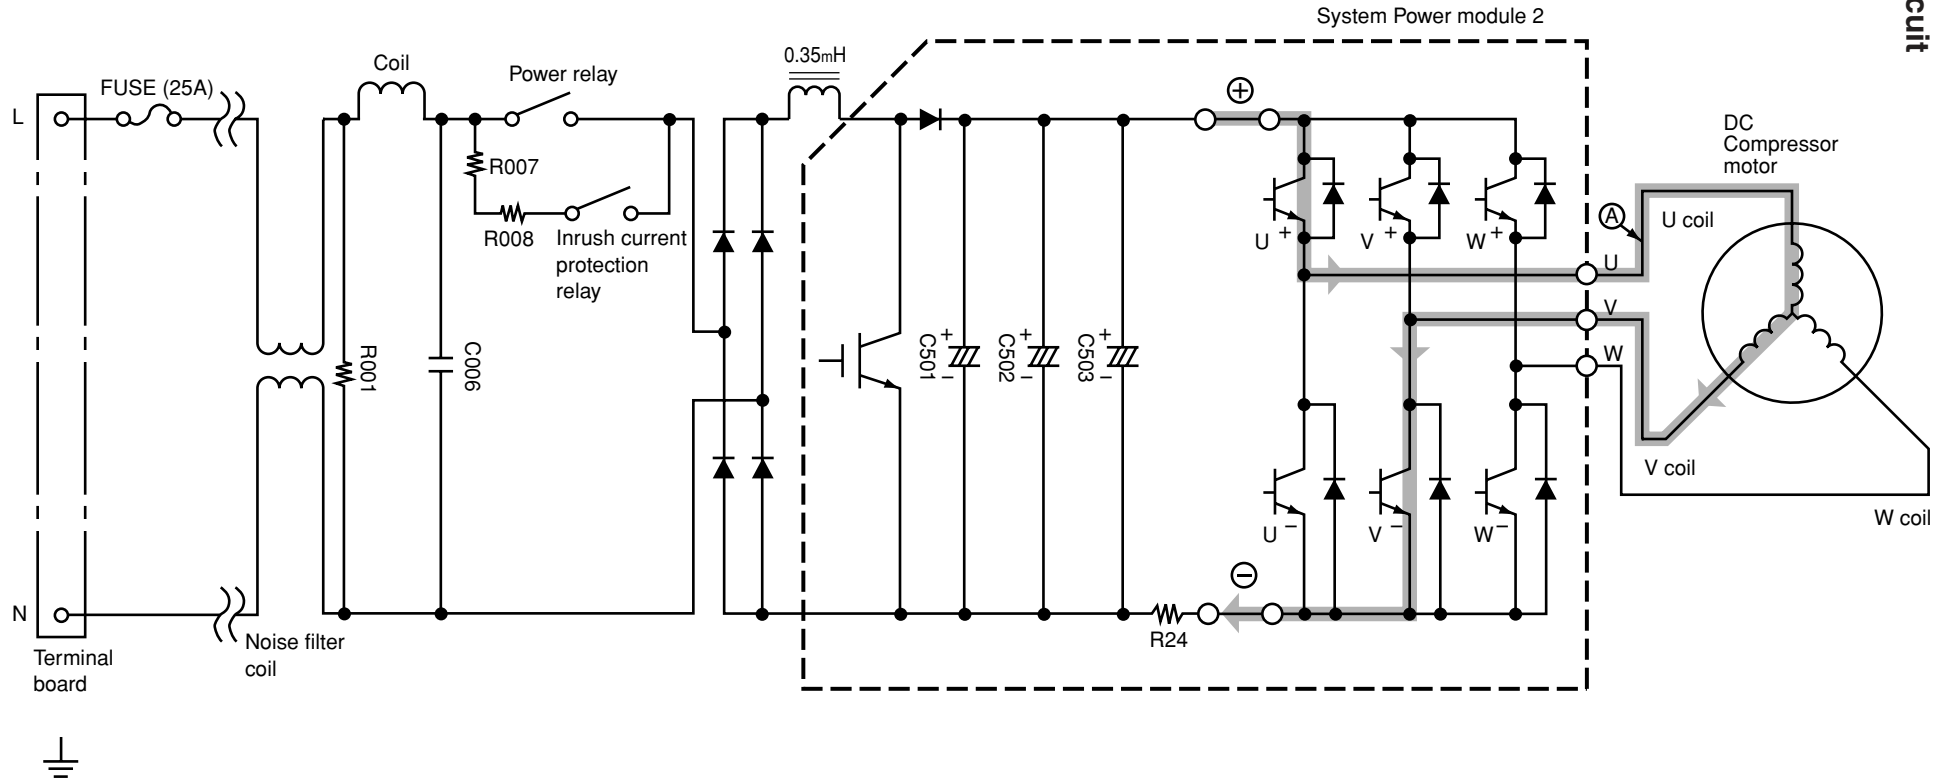
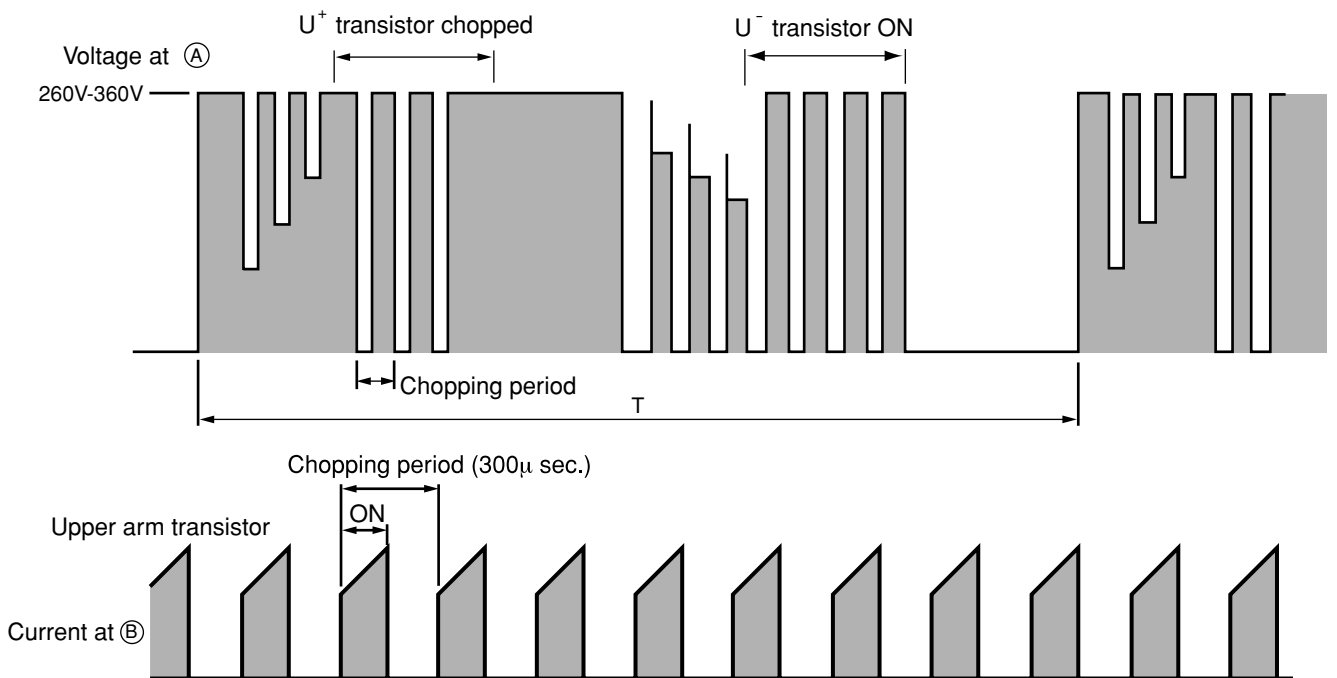

Fig. 3-1 Power module circuit (U^+ is ON, V^- is ON)
Fig. 3-3 Voltage waveform at each point
- Fig. 3-1 shows the system power module and its peripheral circuit. The three transistors on the positive \oplus side are called the upper arm, and the three transistors on the negative \ominus side, the lower arm.
- Fig. 3-3 shows voltage waveform at each point shown in Figs. 3-1 and 3-4. First half of upper arm is chopper, second half is ON, and first half of lower arm is chopper, second half is ON.
- When power is supplied U⁺ → U⁻, because of that U⁺ is chopped, current flows as shown below; (B)
- (1) When U⁺ transistor is ON: U⁺ transistor → U coil → V coil → V⁻ transistor → DC current detection resistor → Point (B) (Fig. 3-1)
- Since current flows at point B only when U⁺ transistor is ON, the current waveform at point B becomes intermittent waveform as shown in Fig. 3-3. Since current at point B is approximately proportional to the input current of the air conditioner, input current is controlled by using DC current (I_d) detection resistor.